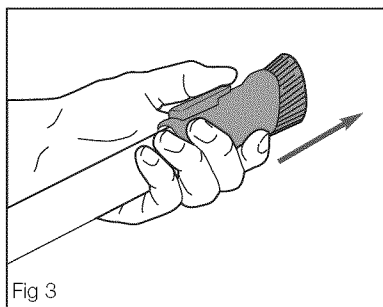

Fig 3
- To use, press dusting brush button ③ and slide brush to end of wand until it clicks (Fig. 3).